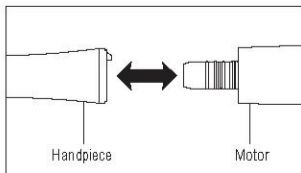

Fig. 1
- Insert the handpiece direct into the motor (Fig. 1). When connecting an optic handpiece, turn the handpiece until it clicks and locks into position.